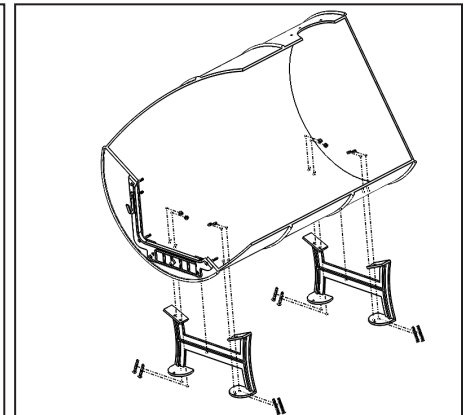

Figure 3
7. Position the legs underneath the barrel, near the front and rear of the barrel and balanced around the center of the barrel so that the barrel is level and stable. With the door frame attached, access the inside of the barrel to secure the legs. (Figure 3)